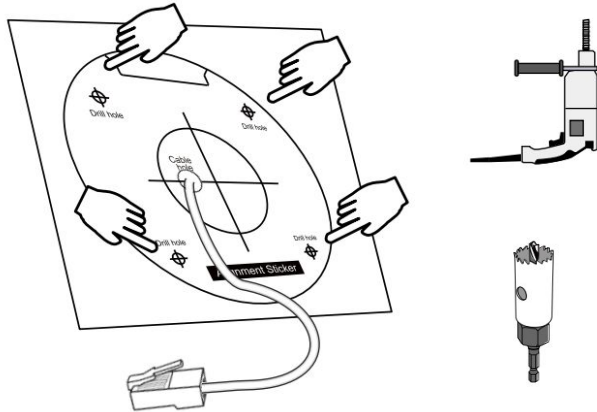

Figure 1-1
Step 1 Use the included position map and drill the appropriate mounting holes and cable exit, then install anchors (if needed). Keep in mind the orientation of the camera's base. See Figure 1-1